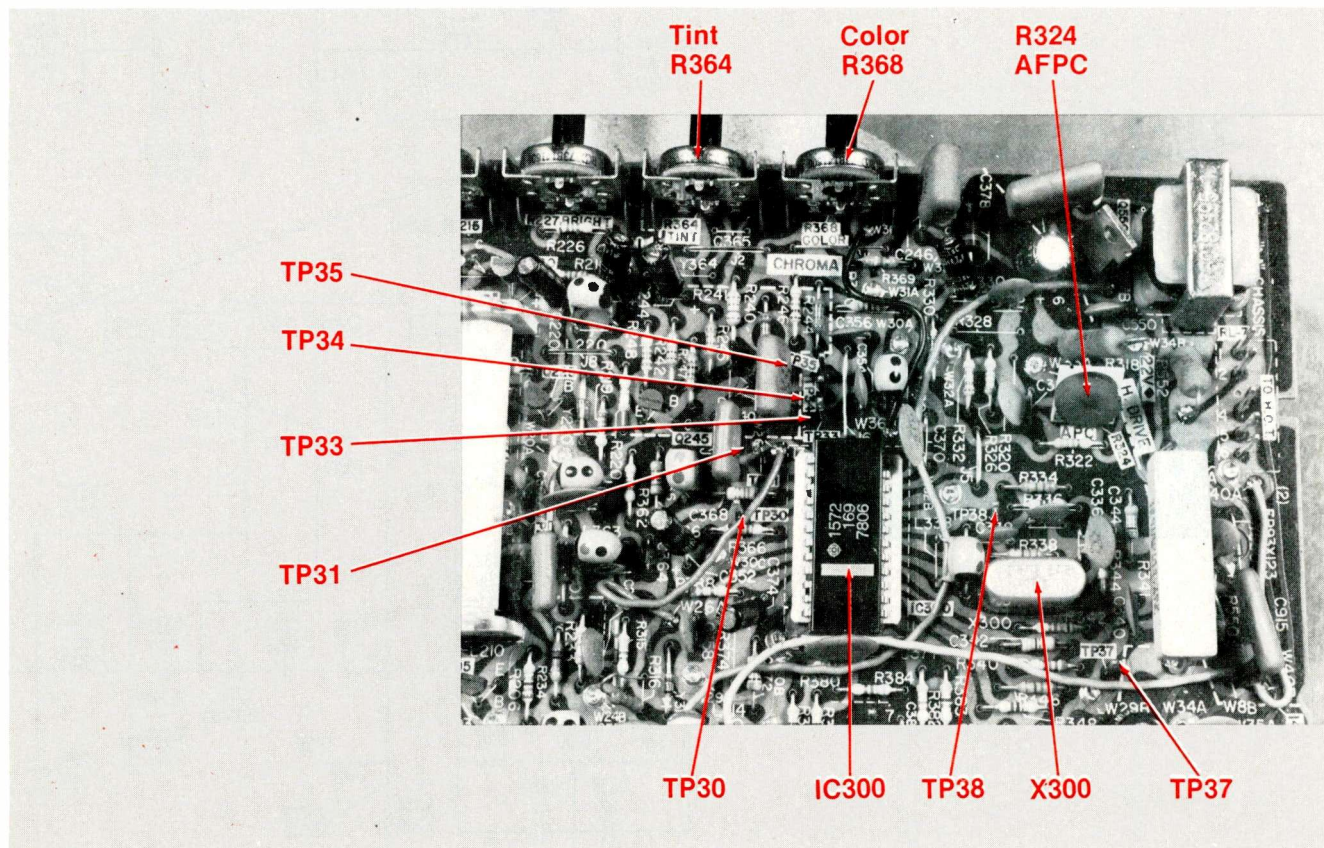

Figure 1 All major chroma-circuit components and testpoints of the General Electric AA-D chassis are available on the main module.
Only one integrated circuit (IC), one luminance amplifier and three power transistors are used in the chroma and matrixing circuits. Arrows in Figure 1 point out the locations of many components and test points.